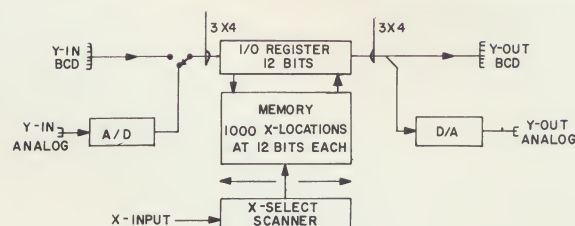
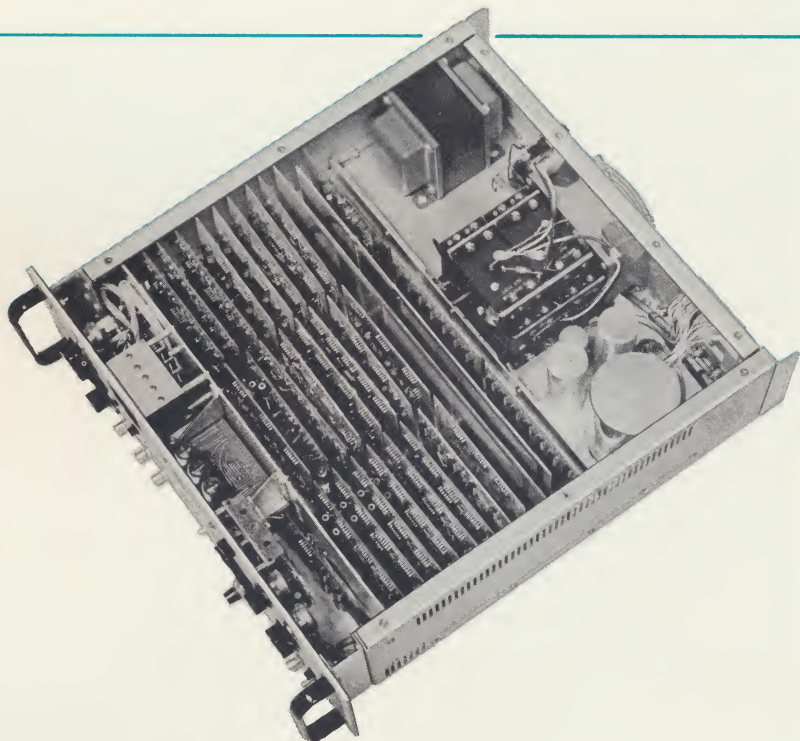

Fig. 2. Y-channel elements, showing four possible paths for the record/playback process.
Fig. 1. USING MODEL 701 AT A SWITCHING-TIME MEASUREMENT STATION. Sequence:
(1) the memory is organized to accept 3-digit BCD voltage-ordinate information for each of 1000 time-slots as in Fig. 1. In conjunction with self-contained clock, A/D converter in WRITE mode, and D/A converter in READ mode (Fig. 2), the instrument will digitize and record a single-event transient voltage $v=f(t)$, store it indefinitely, and replay it as required in either digital or analog form, single-shot or iterated, on the original time-base or at any time rate within its range of one segment per second to 10^5 segments per second.
(2) the memory may be used as a 1000-word, 12-bit-per-word random-access storage system, without reference to the voltage-vs-time mode, with 3-digit BCD word address on the x-axis.
Fig. 2 diagrams the essential elements involved in the information or y-channel, which is the voltage-ordinate channel in Mode 1 above, or the word-channel in Mode 2. There are four possible sequences through the instrument:
Fig. 1. Organization of the Model 701 Memory: A 1000 x 1000 grid accepts 3-digit voltage ordinate information at each of 1000 time-slots for high-resolution transient recording.
In TRIGGERED CYCLE operation the scan moves sequentially at the internal clock rate from t_{000} to t_{999} (Fig. 1), on command from a MANUAL TRIGGER or external sync pulse.